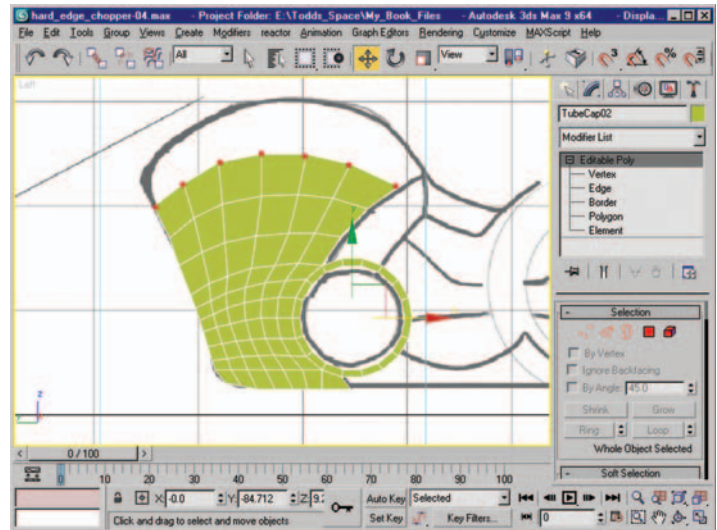

Figure 8.13 Mesh after moving vertices and edges to create a better mesh flow.
14. At the Vertex subobject level move the new vertices to better match the shapes seen in the blueprint (Figure 8.13). There is a work-flow pattern developing: shift-dragging to create new edges and polygons, followed by moving subobjects (vertices and edges) to create the desired shapes.